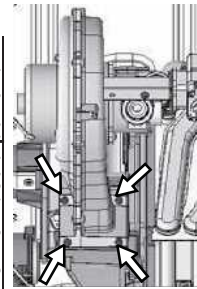

Figure 4
- 4) Remove 4 screws with a Phillips screwdriver (Figure 4).
- 9) Secure the Fan Motor and Venturi assembly to the Burner Chamber by tightening the 4 screws removed in Step 4. The screws need only to be hand tightened and should not be tightened using a power drill. First, insert screws 1-4 in Figure 4, but do not fully tighten these screws. Once all screws are inserted, proceed to completely tighten screws 1-4.